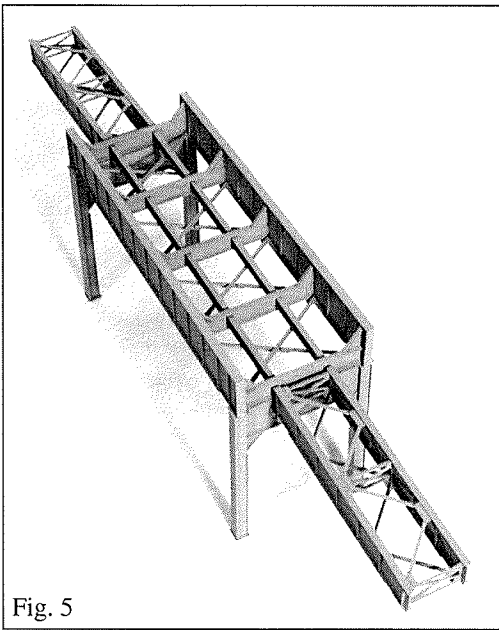

Fig. 5
4. Hold a **50' lateral bracing** ⑥ on edge with the rivet detail to the outside of the bridge and match the notches in the rivet plates with the appropriate **vertical angles** along the bottom edge of one of the **girders**. Cement the **lateral bracing** against the inside edge of the **girder flange** holding it square to the **girder** while the cement dries. Rotate the assembly so the **lateral bracing** is flat on the work surface and the **girder** is vertical. Hold the second **50' girder** on edge, aligned as described in step 2, with the **inside face** toward the **lateral bracing**, and cement the **girder** to the lateral bracing rivet plates. Be sure the rivet plates are against the inside edge of the **girder flange** and the **girder** is square to the assembly (see fig. 5).